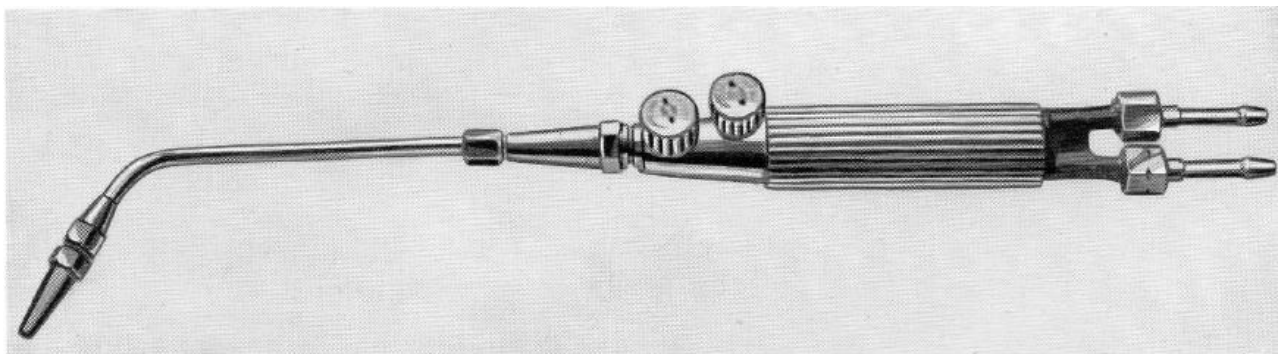

Fig. 2. Type DH. H.P. blowpipe for welding metals from $\frac{1}{64}$ in. to $\frac{5}{16}$ in. Use $\frac{3}{16}$ in. bore rubber canvas hose Ref. H.P.1.
9. Connect the other end of the hose to the blowpipe, the acetylene hose to the connection marked A the oxygen to the connection marked O. Keep the blowpipe control valves closed. A high pressure blowpipe (Fig.2) should be used with H.P. equipment.